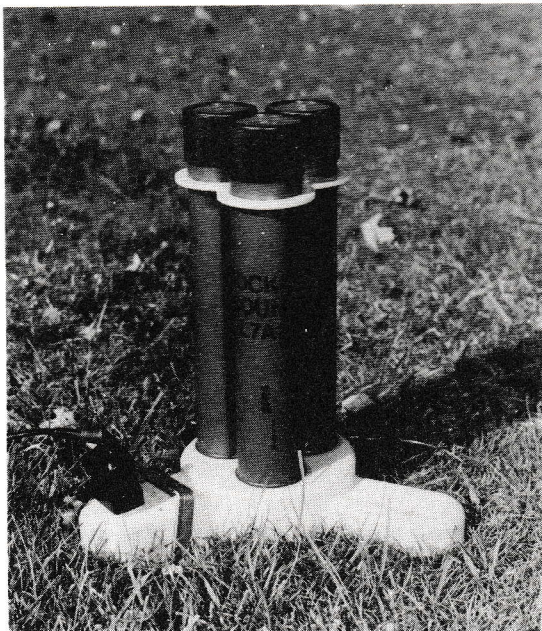

Fig L10.1
11. The maroon is to be placed on one of the pre-selected sites and the stabilising hoop pushed into the ground over the base projection to which the black cable will be plugged (Fig L10.1).